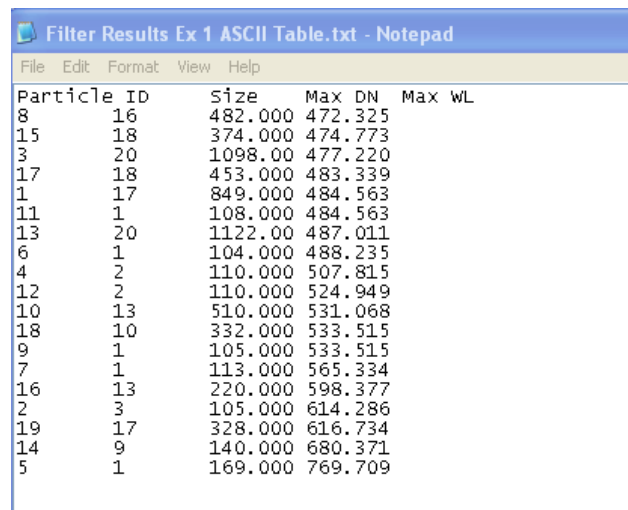

Figure 5. Filter Results to ASCII File
14. Saving to Table Data to ASCII causes the particle filter data to be written to a text file (See Figure 5). Make sure to add a .txt extension to the file so it will open correctly in NotePad or Word. In both cases all of the particle data from the session is saved, not just the selected particles.